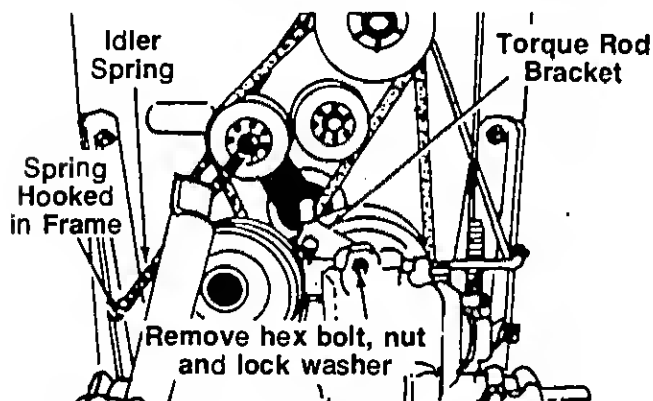

FIGURE 26.
3. Unhook the idler spring from the rider frame. See figure 26.